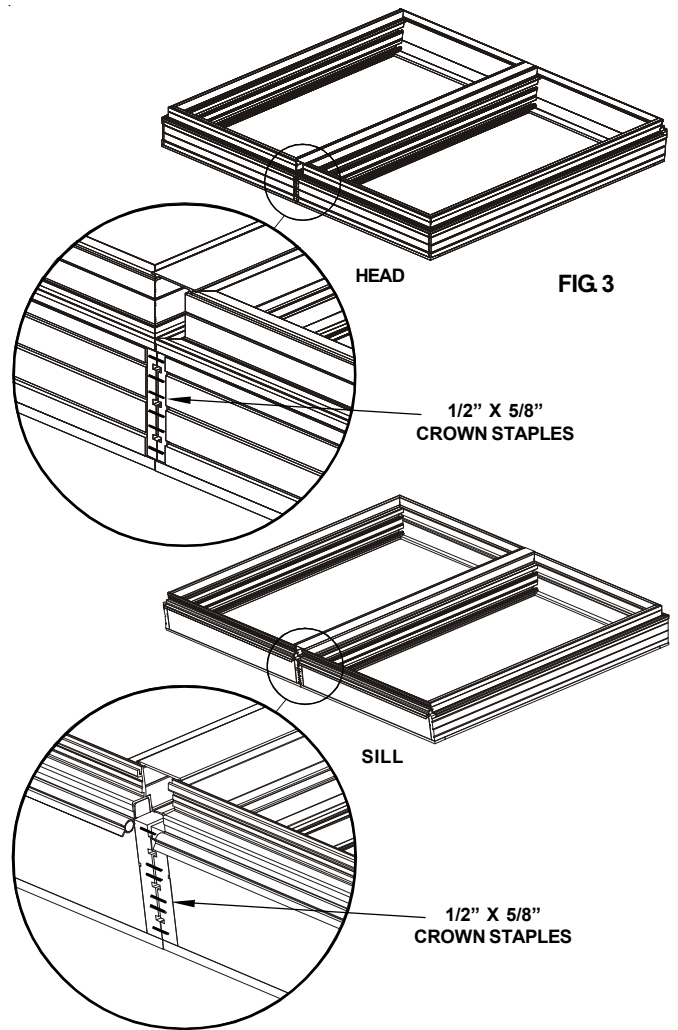

FIG 3
5. Make sure the units are flush and tight together at the mull and then fasten the units together at the head and sill with 1/2" x 5/8" crown staples. Use 6 staples at each location. See Fig. 3